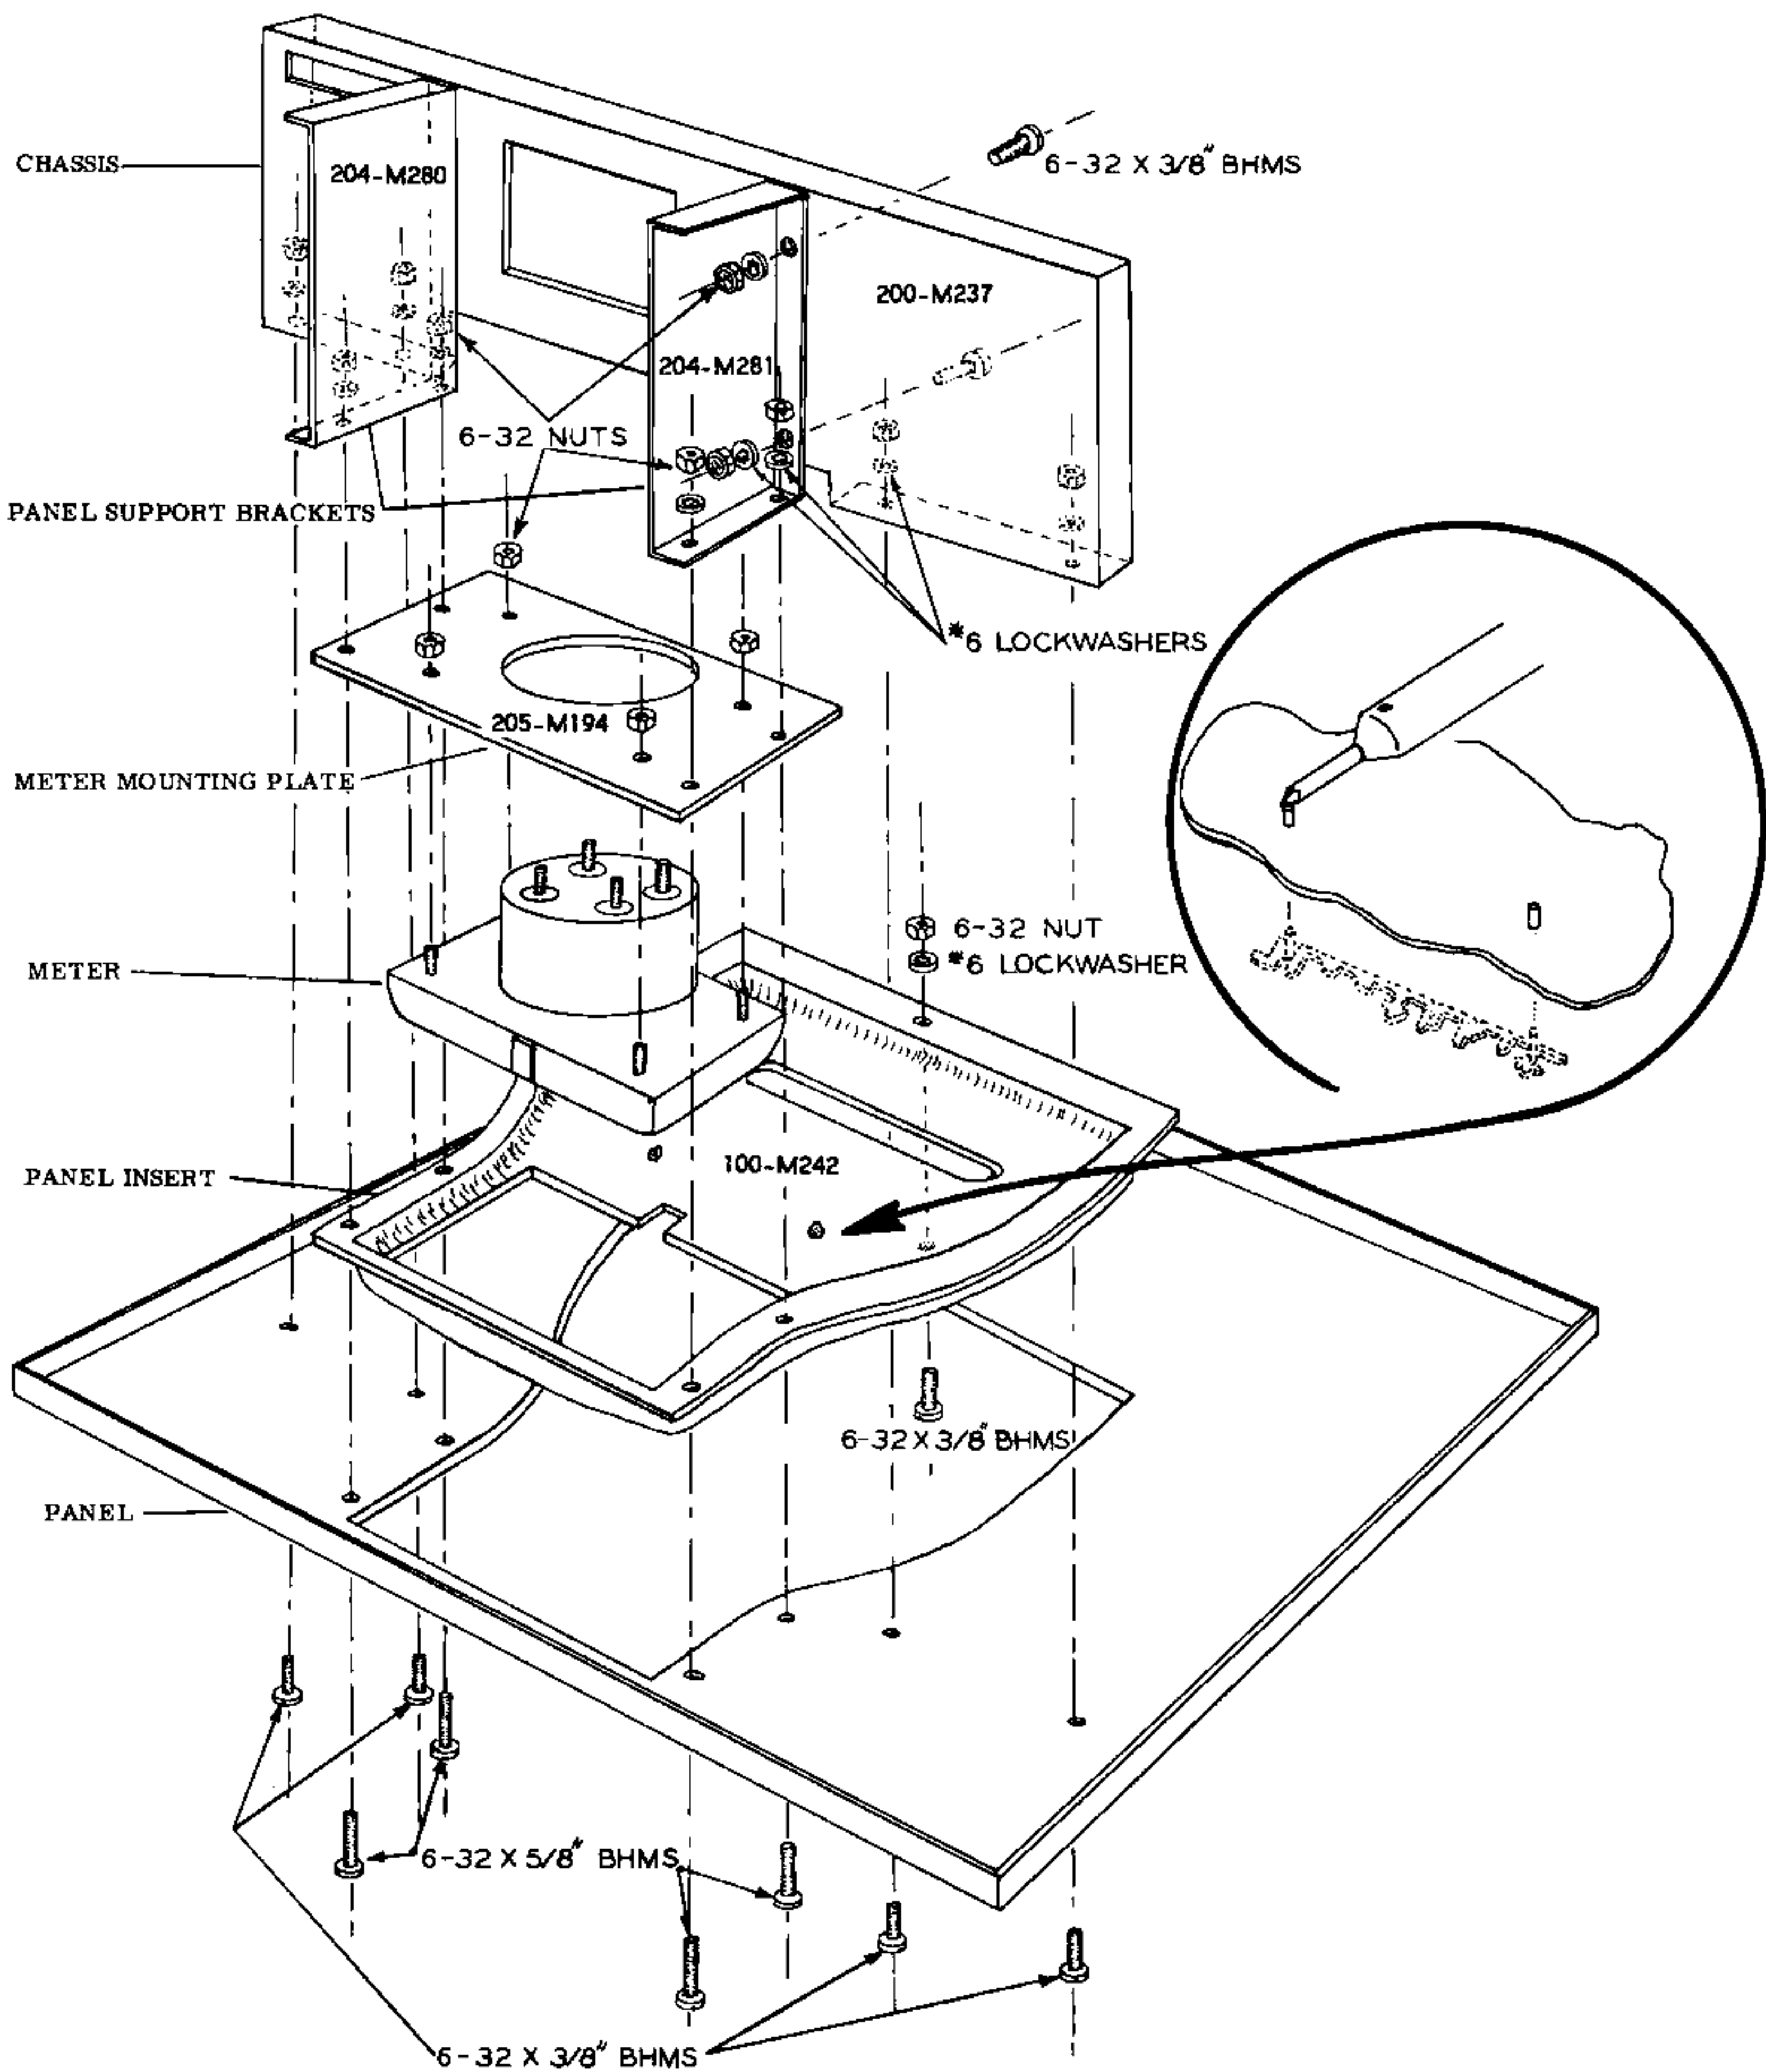

Figure 23
- ( ) Mount the meter on the meter mounting plate, using the 6-32 nuts provided. Use no lockwasher. See Figure 23.